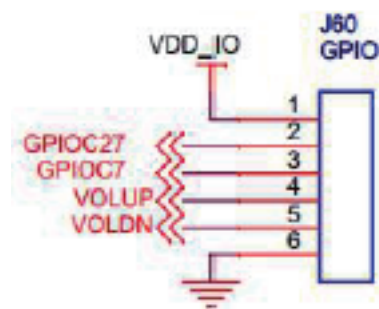

Fig 1
A. J60-1 has the name VOLUP in the schematic, shown in Fig 1.